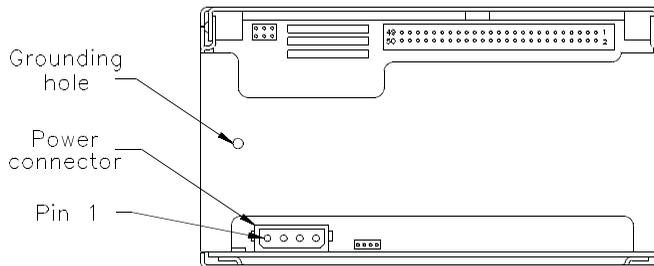

Figure 7 Location of grounding tab, grounding hole, and power connector
6. If you need additional chassis grounding, connect a grounding wire to the grounding hole on the back of the tape drive using an M3-0.5 × 6 mm self-tapping screw. The grounding hole is shown in Figure 7.